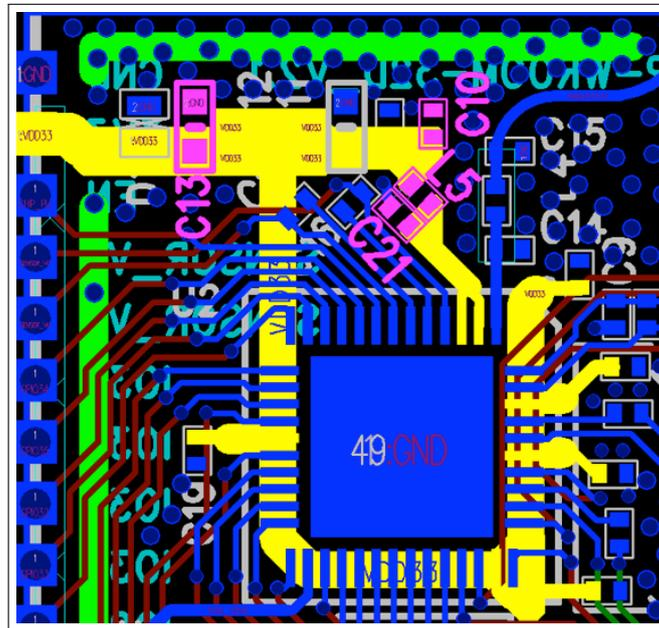

Figure 18: ESP32 Power Traces in a Four-layer PCB Design
- The 3.3 V power traces, highlighted in yellow, are routed as shown in Figure 18. The width of the main power traces should be greater than 25 mil. The width of the power traces for pin3 and pin4 should be at least 20 mil. The width of other power traces should be within the range of 12 ~ 15 mil.
- As shown in Figure 18, an ESD protection diode is placed close to the power port (marked in red circle). A 10 μF capacitor is required before the power trace connects the ESP32 chip, to be used in conjunction with a 0.1 μF capacitor. Then the power routing is divided into two ways. The power rails of pin3 and pin4 should be routed together to reduce the coupling between different power pins.
- It is required to place C (capacitor) and L (inductor) near the power pins pin3 and pin4. As shown in Figure 18, C13 (10 μF) is placed at the entrance of the power, and C10, L5, and C21 are placed near the chip's analog power pins. When possible, add a 0.1 μF capacitor to each digital power supply pin. Note that all decoupling capacitors should be placed close to the power pin, and ground vias should be added adjacent to the ground pin for the decoupling capacitors to ensure a short return path.